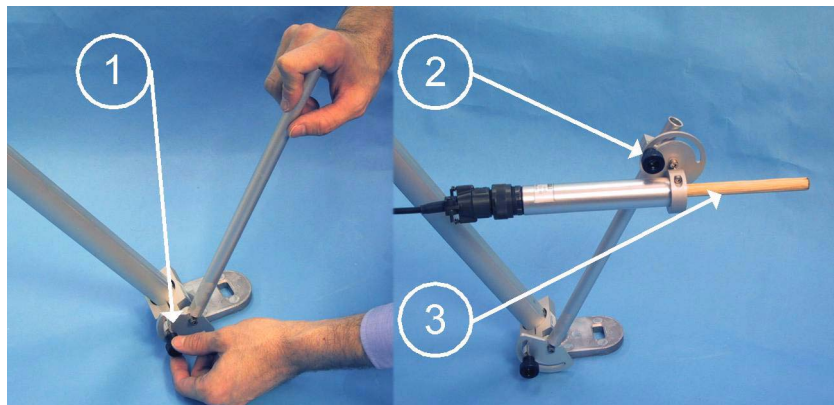

Figure 97 **Fuel Moisture Sensor Attachment**
12. The optional Fuel Moisture Sensor is factory assembled to the sensor support bracket, and the sensor arm is factory assembled to the leg of the tripod. Release the hand screw (number 1 in Figure 97 on page 104) and turn the sensor arm to an angle of 45°. Push the sensor support bracket to the sensor arm and tighten the hand screw (number 2 in Figure 97 on page 104). Level the sensor horizontal 30 cm (1 ft.) above the surface by adjusting the sensor arm angle and the angle of the sensor.
It is important to keep the wooden dowel part (number 3 in Figure 97 on page 104) of the sensor clean. Avoid touching the dowel with bare hands. Any contact with grease or oil will prevent the sensor from exchanging moisture and will make the calibration invalid.